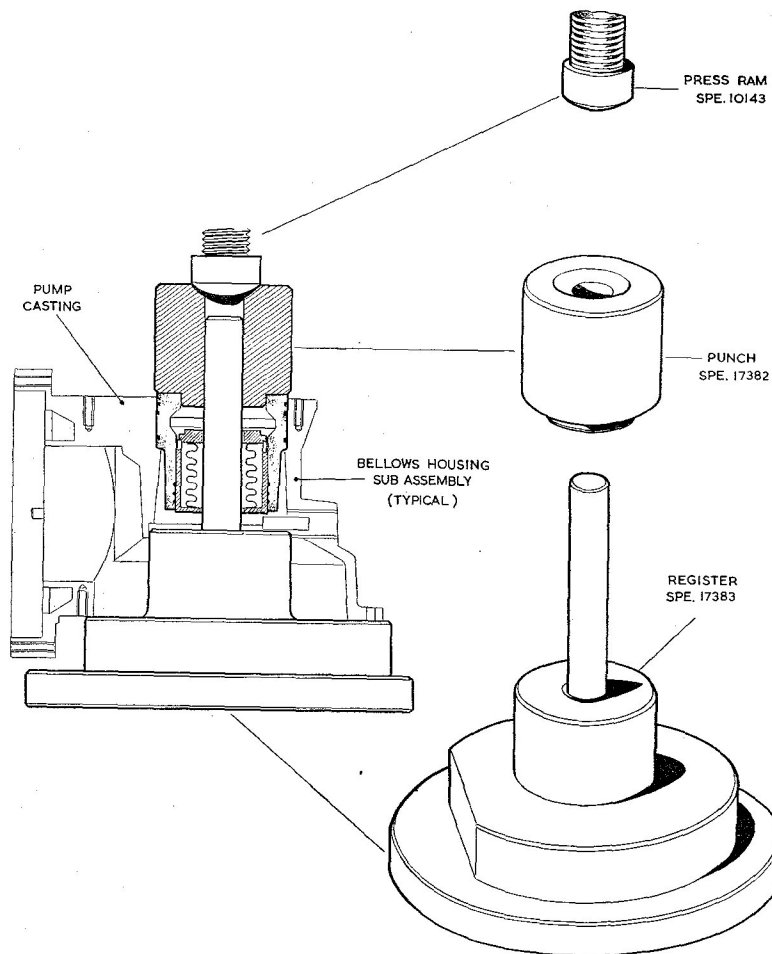

Fig. 17. Bellows housing assembly
(1) Pre-heat the pump casting to approximately  $250-300^{\circ} \text{ C.}$  Smear the lower portion of the housing assembly (75) with Hermeticoll jointing compound and using the tools illustrated in fig. 17, press the housing into position until the shoulder abuts with that in casting. Wipe off any exuded jointing compound.